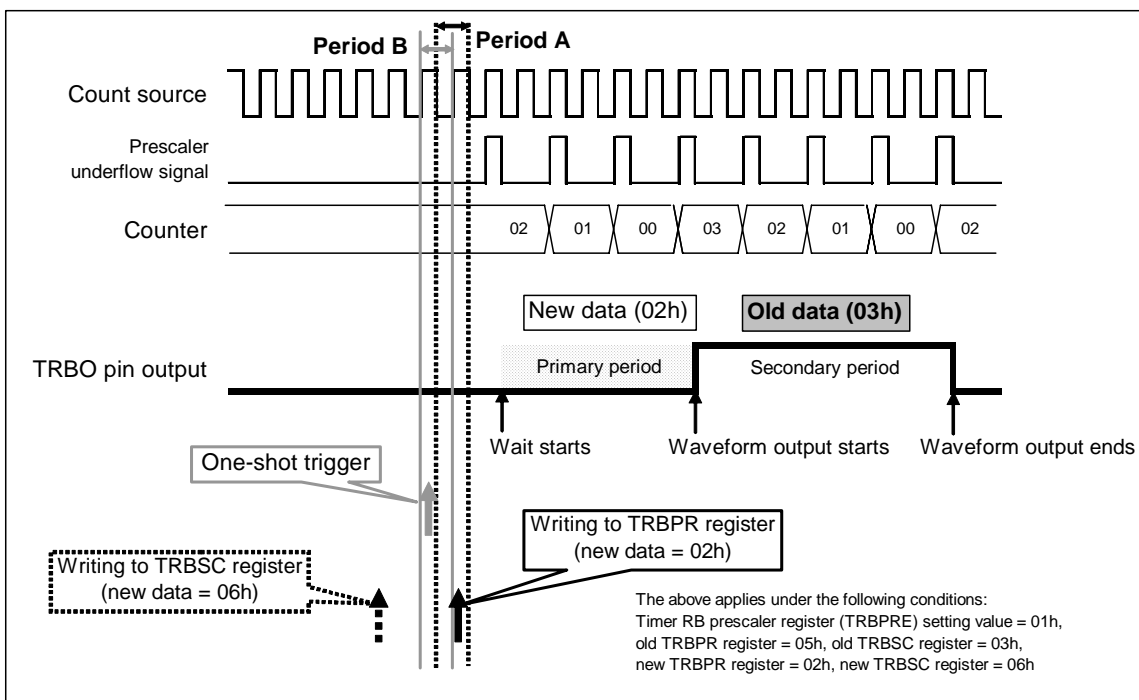

Figure 2 Programmable Wait One-Shot Generation Mode Timing When Symptom Occurs
- (1) When the TSTART bit is set to 1
- (2) When writing to the TRBPR register is completed during interval A shown in Figure 2
- (3) When a one-shot trigger (writing 1 to TOSST bit or INT0 pin one-shot trigger enabled) is generated during interval B shown in Figure 2
If writing to the TRBPR register is completed during interval A in Figure 2 and a one-shot trigger is generated during period B, a new TRBPR register setting value is reflected during the primary period, but a new TRBSC register setting value is not reflected during the secondary period. A new TRBSC register setting value is reflected at the next one-shot pulse.
The following procedures should be performed to prevent the conditions shown in Figure 2.